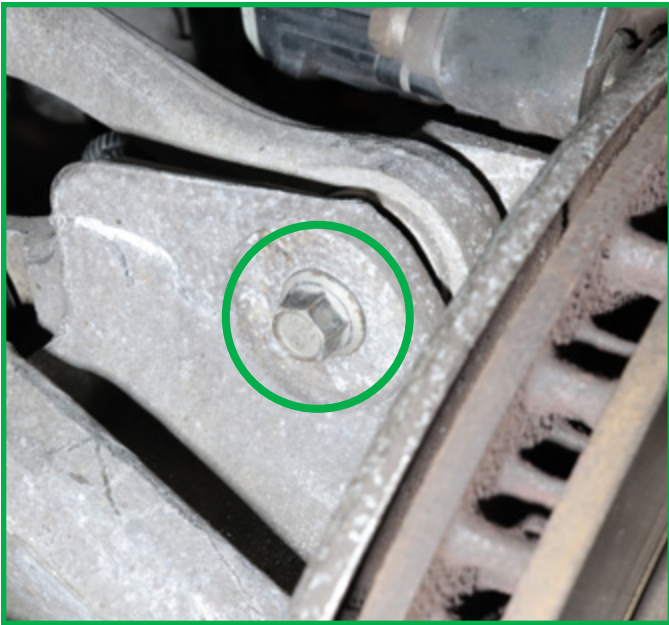

FIGURE 12
3. Maneuver the lower mount into position and install the lower mount bolt and upper control arm bolt. (Figures 12, 13)